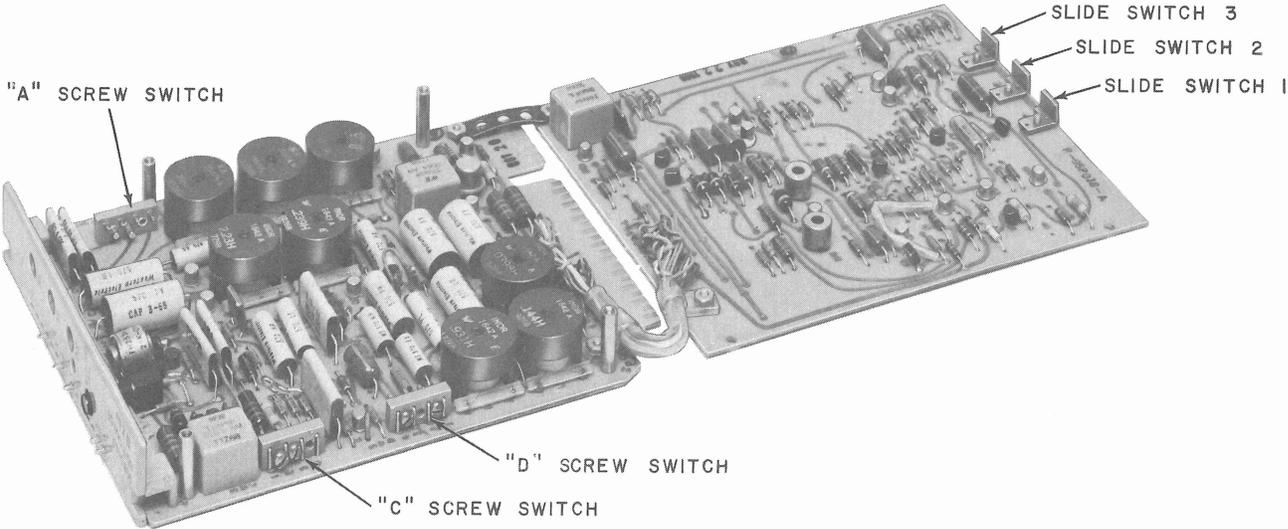

Fig. 8—Data Set 108D-L1
DATA SET 108D-L1 (SEE FIG. 8)
Data Set 108D-L1 (See Fig. 8)
6.03 Connect the positive (+) and negative (–) terminals of the TTS-28 Portable Station Test Set to test points TP11 and TP14 on circuit pack AR73 or AR74, whichever is used. Position the FUNCTION switch of TTS-28 to DBM 900Ω TERM 0. Remove circuit pack AR72. Adjust potentiometer R18 on Data Set 108D-L1 (see Fig. 8) for the output level specified on the service order sheet or circuit layout card. The output level should reach the central office equipment at a level not greater than –12 dBm. Perform this adjustment on each interconnection arrangement being installed. Replace circuit pack AR72.